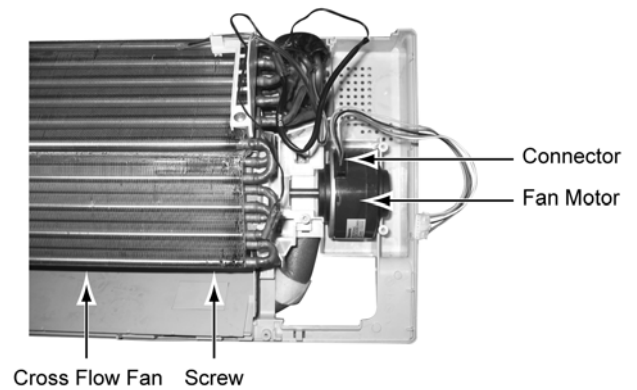

Fig. 10
- Remove the screw at the Cross Flow Fan. (Fig. 10)
- Reminder:- To reinstall the Fan Motor, please adjust the connector location to 45° with Fan Motor before fixing Control Board. (Fig. 10)